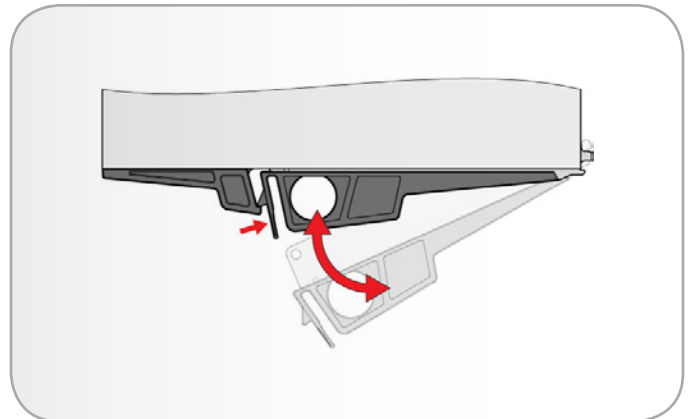

Fig. 40 - Releasing the Module Handle Latch
2. Pull the latch outward to eject the module from the enclosure (Fig. 40).